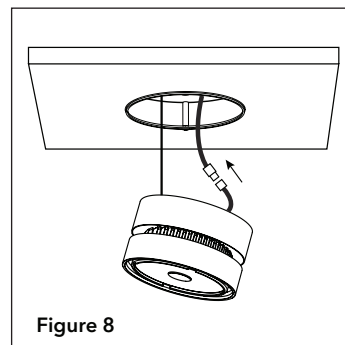

Figure 8
Step 8. Connect power wires from power supply in ceiling to luminaire with quick-connector (Fig. 8).